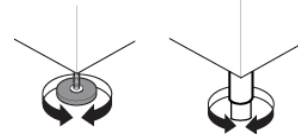

Fig. 4
- 1- Position the dishwasher and level the appliance by turning the relative height-adjustable feet. (Fig.4)